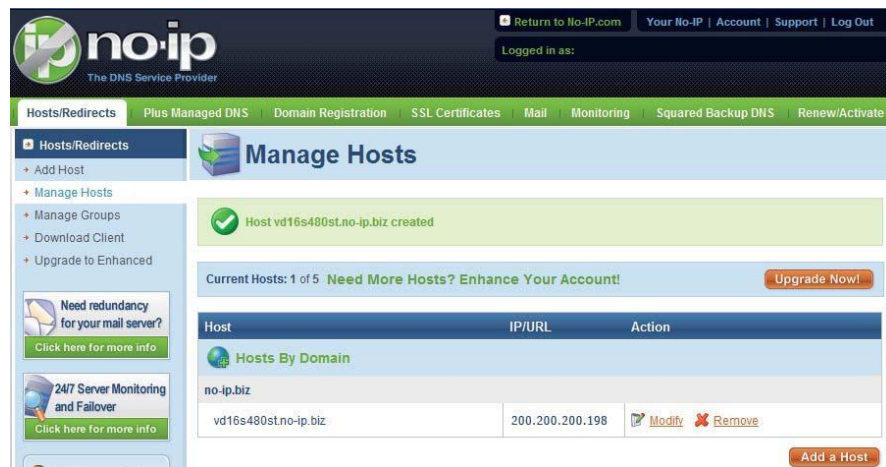

Figure 14-9
9. Now you can see an interface is shown as in Figure 14-9. Here you can view domain name and the computer's current IP setup. If you already have a domain name equal to gurado trusted, you must define another name for the host.